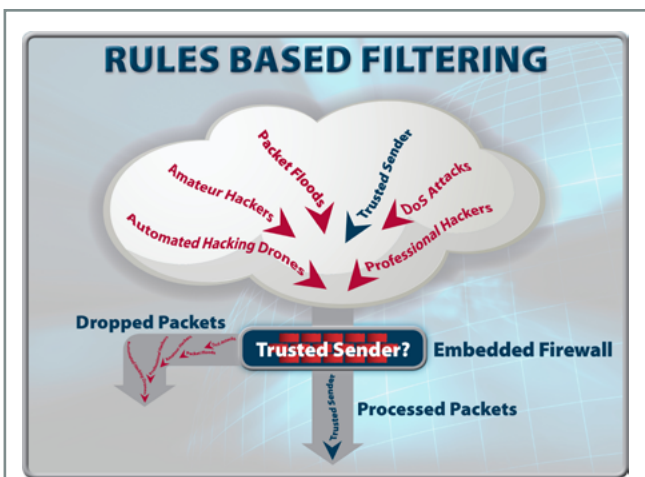

Figure 1
- **Data anti-tamper detections** – this is achieved using a secure hash of static configuration data which lets the system detect when unauthorized changes have been made. Data anti-tamper can detect cross application attacks, such as a change to configuration data via the FTP or Web interface by an unauthorized user (Figure 1).